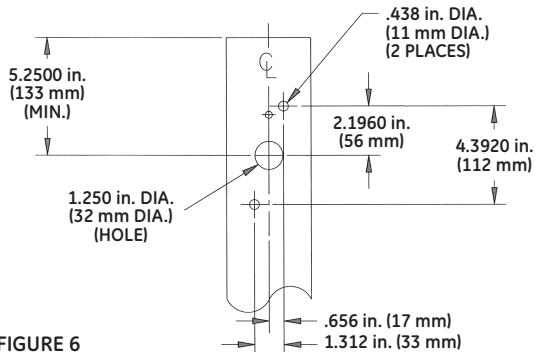

FIGURE 6
This luminaire has been configured the same as 4 and no adapter plate is needed to mount to a square pole. Hole pattern on square pole shall be in accordance with Figure 6.
- Clamp the fixture to the pipe with three set screws (See Figure 6) Tighten set screws to 18-22 foot pounds (24-30 N-m).